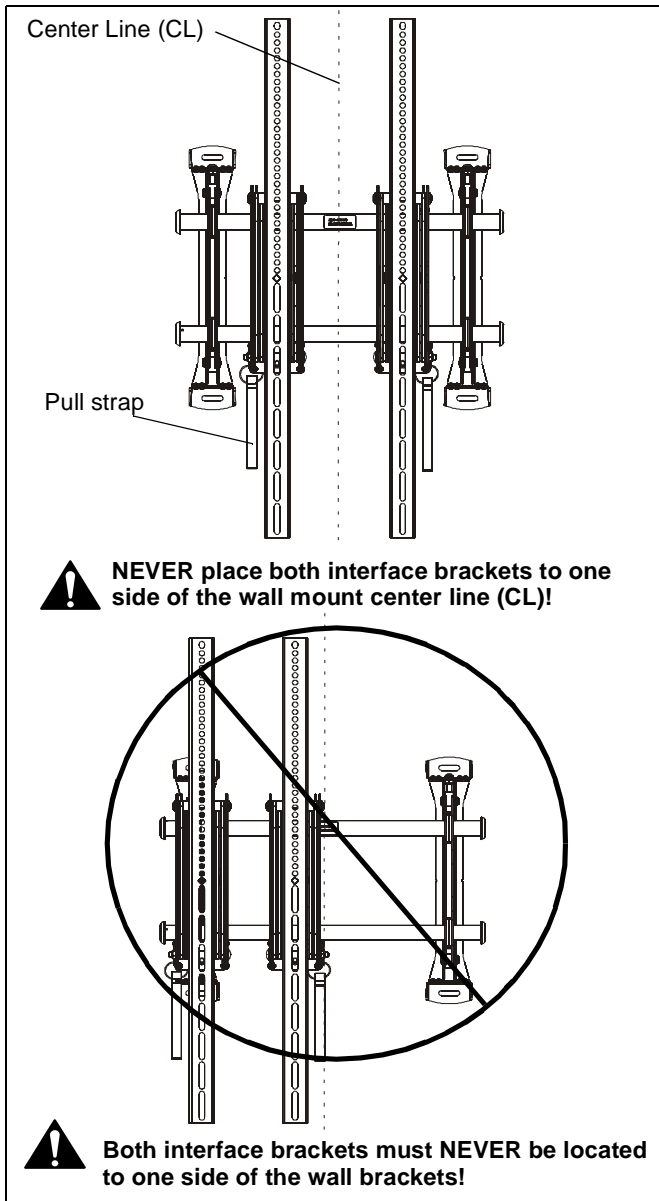

Figure 11
- Adjust pull strap (if necessary) so it does not extend beyond bottom of screen. (See Figure 11)
NOTE: Do NOT allow both interface brackets (U and V) to be located on same side of wall bracket. (See Figure 11)
NOTE: NEVER place both interface brackets (U and V) to one side of the wall mount center line! (See Figure 11)